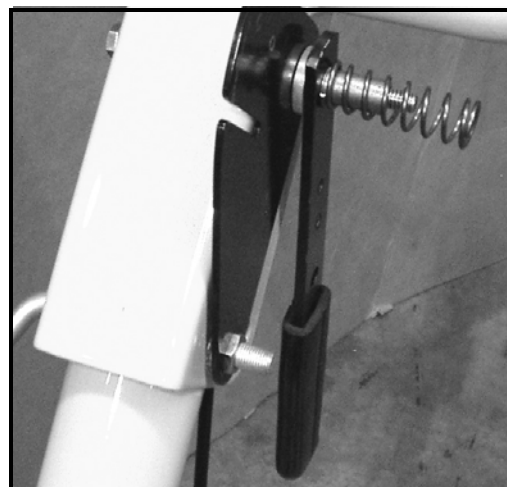

FIGURE 6
15. Install the tubular Spacer (Item 4) onto the screw followed by the Compression Spring (Item 7). See Figure 6.